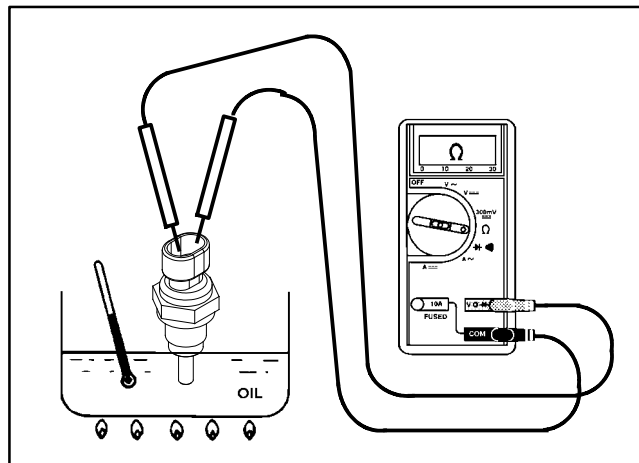

Figure 59
3. Put sensing end of sender in a container of oil with a thermometer and slowly heat the oil (Fig. 59).